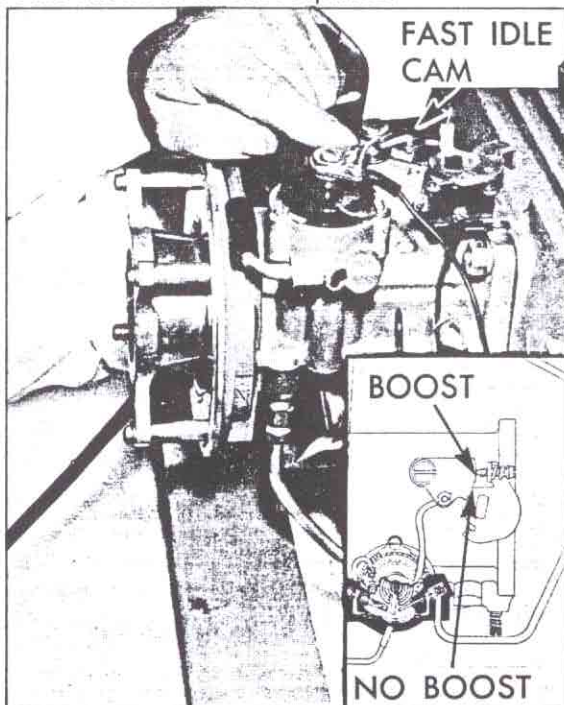

Fig. 117—Cold Enrichment Rod Length Adjustment
3. Holding the trip lever against the counterweight tab as illustrated in Figure 117, blow into the hose while listening at the air meter. If choke rod length is correct, slight air flow should be heard. Repeat check but with throttle tab on second step of fast idle cam. No air flow should be heard. If necessary, bend rod as required with bending Tool J-6492 to shorten or lengthen rod in order to meet the above requirements.